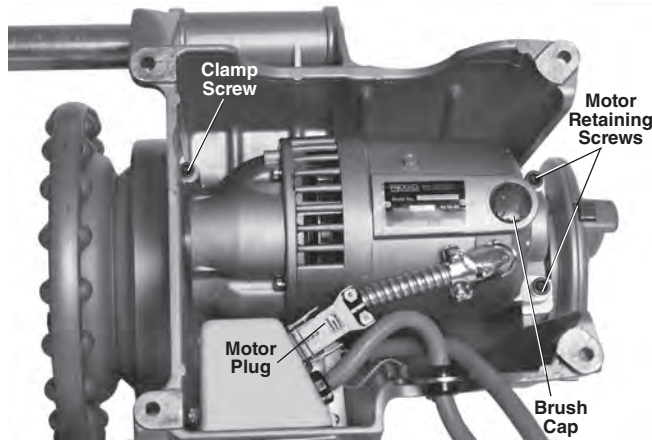

Figure 32 – Removing Motor Cover/Changing Brushes
3. Set machine on a clear and stable bench. Turn machine over for access to underside (Figure 32).